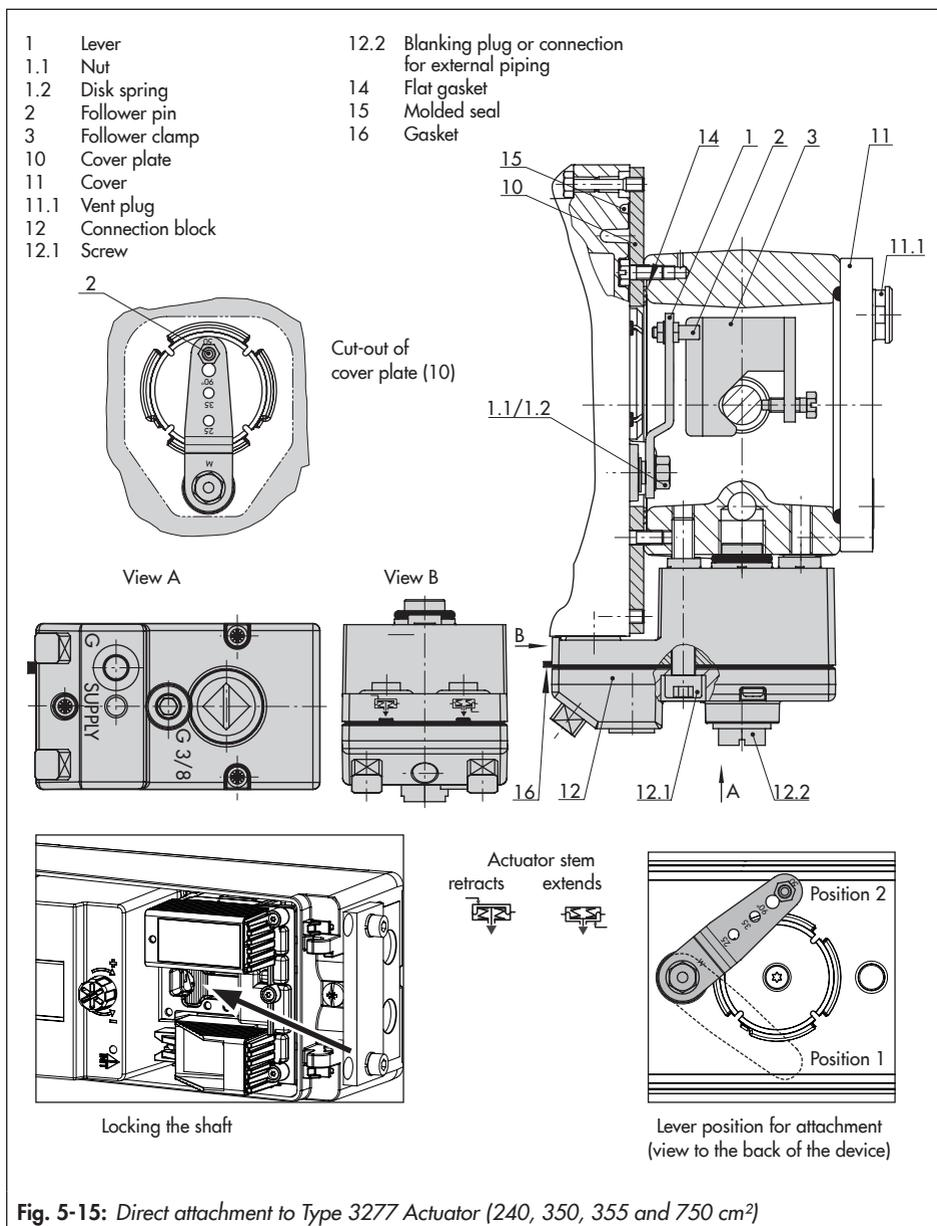

Fig. 5-15: Direct attachment to Type 3277 Actuator (240, 350, 355 and 750 cm²)
To lock the positioner shaft on mounting the positioner on the valve, insert a flat-blade screwdriver into the groove of the limit switch assembly and hold the shaft in position 2 (see Fig. 5-15).
- See Fig. 5-15
1. Place follower clamp (3) on the actuator stem, align it and screw tight so that the mounting screw is located in the groove of the actuator stem.
2. Mount cover plate (10) with narrow side of the cut-out pointing towards the signal pressure connection. Make sure that the glued-on flat gasket (14) points towards the actuator yoke.
3. Check the pin position of the follower pin (2) on M lever (1). Refer to travel tables for type of attachment. If necessary, change the pin position (see Chapter 5.2.1).
4. Insert molded seal (15) into the groove of the positioner housing.
5. Turn the lever counterclockwise until the spring force can be felt (position 1). Continue to turn the lever further to position 2 (see Fig. 5-15, bottom right).
6. Press the shaft lock (see Fig. 5-15, bottom left) to hold the lever in position 2.
7. Place positioner on the cover plate in such a manner that the follower pin (2) rests on the top of the follower clamp (3). The lever (1) must rest on the follower clamp with spring force. Fasten the positioner on the cover plate (10) using the three fastening screws.
8. Make sure that the tip of the gasket (16) projecting from the side of the connection block is positioned to match the actuator symbol for the actuator's fail-safe action "actuator stem extends" or "actuator stem retracts". If this is not the case, unscrew the three fastening screws and lift off the cover. Turn the gasket (16) by 180° and re-insert it.
9. Place the connection block (12) with the associated seals against the positioner and the actuator yoke and fasten using the screw (12.1). For actuators with fail-safe action "actuator stem retracts", additionally remove the blanking plug (12.2) and mount the external signal pressure pipe.
10. Mount cover (11) on the other side. Make sure that the vent plug is located at the bottom when the control valve is installed to allow any condensed water that collects to drain off. The outputs 79 and 238 must be sealed with the dummy plate (see Chapter 5.5).
9. Press the shaft lock of the prepared positioner (see Fig. 5-15, bottom left) and hold the lever in position 2.
10. Place positioner in such a manner that the follower pin (2) rests on the top of the follower clamp (3). The lever (1) must rest on the follower clamp with spring force.